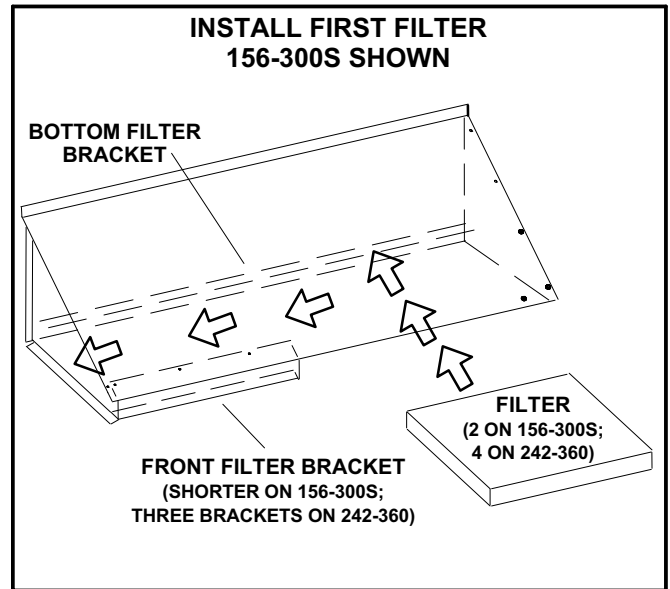

FIGURE 12
- 8- Insert filter into the bottom filter bracket. Slide filter to the left into the front filter bracket (bracket is shorter on 156-300S units). See figure 12.
- 9- Insert the remaining filter(s) into the bottom filter bracket. Install the remaining front filter bracket(s) to support the front of filter. Secure using provided screws. See figures 12 and 13.